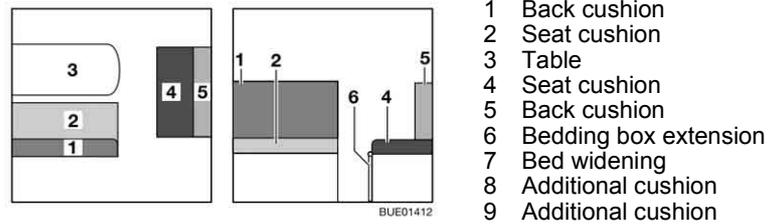

Fig. 120 Prior to conversion
- Convert the table (Fig. 120,3) to a bed foundation (see section 6.12).
- Unfold the bedding box extension (Fig. 120,6).
- Remove the back cushion (Fig. 120,1) and lay it aside.
- Remove the back cushion (Fig. 120,5).